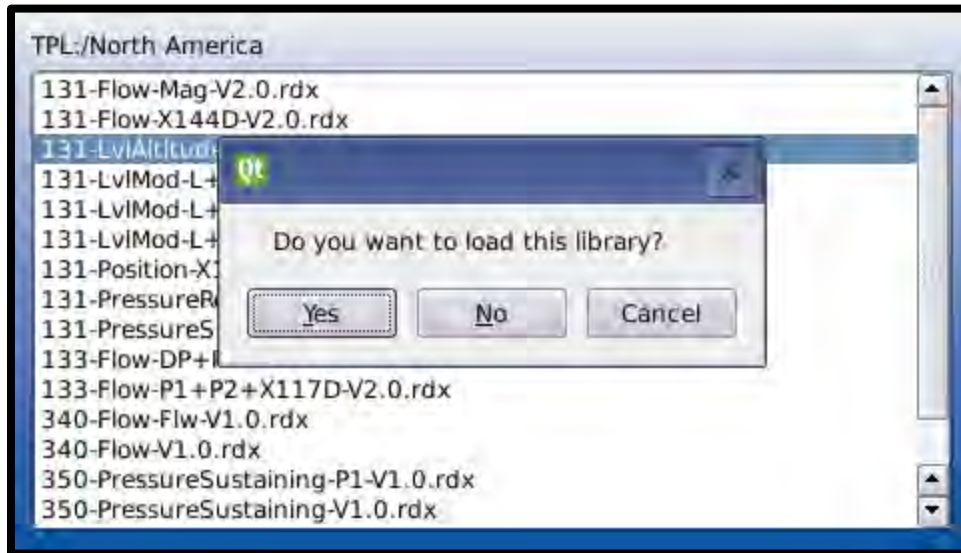

Figure 5.4
- c. When prompted for confirmation, highlight “Yes” using navigation arrows and press “OK” as shown in **FIGURE 5.4**.